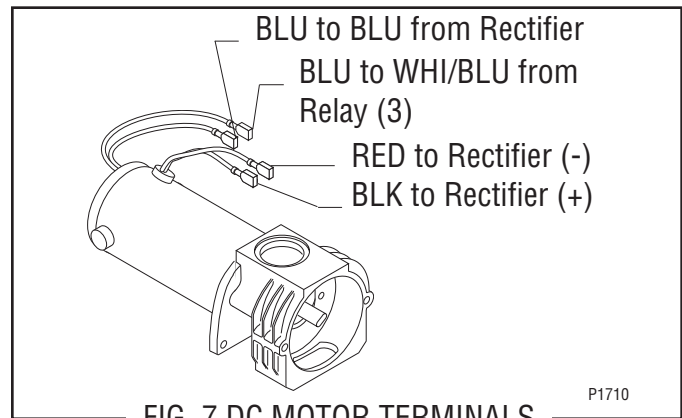

FIG. 7 DC MOTOR TERMINALS
18. Install motor and bracket through the rear of the grinder, position on the grinder housing bracket and secure with four .312"-18 screws (20), rubber washers (22) and flat washers (21).
19. Install stationary burr (9) to the grind chamber housing using two .250"-20 screws (8).
20. Install burr (7), burr auger rotor/spring assembly (3) and burr rotor disc (4) on to motor shaft.
21. Install grind selector dial plate and grind selector knob assembly (2) on the grind chamber housing and secure with two .250"-20 screws.
22. Refer to Fig. 7 and reconnect the wires to the motor and Fig. 37 and reconnect the wires to the rectifier.